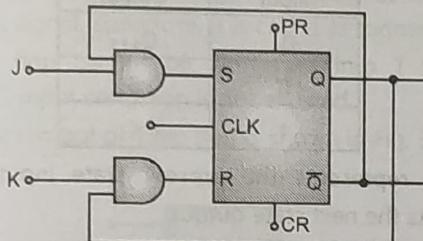

Fig. 3.18 : JK flip flop constructed using S-R flip flop
- The data input J is ANDed with \bar{Q} to obtain S input and the data input K is ANDed with Q to obtain R input as shown in Fig. 3.18.